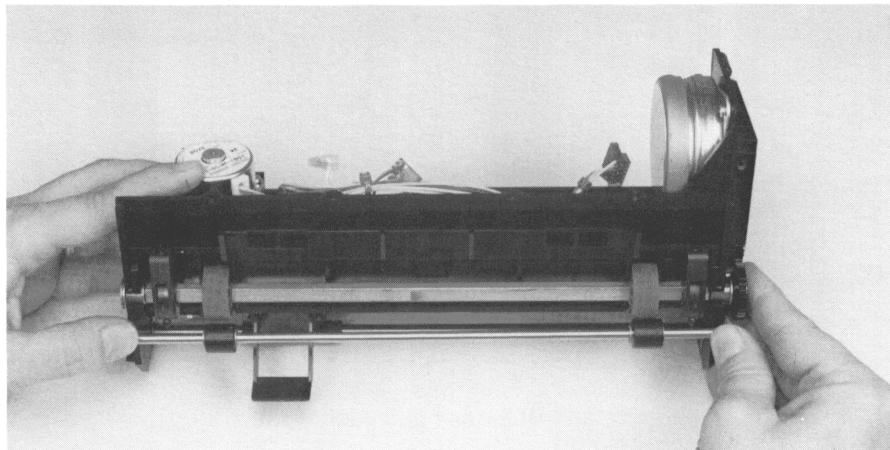

Figure 3-3, Bail Arm Adjustment, Left Side
2. Once the right side is adjusted properly, apply downward pressure on the right side of the bail arm assembly and lift the left side of the bail. See Figure 3-3. The left pinch roller should have the same amount of play. If not, use the same techniques outlined above to make the proper adjustment.